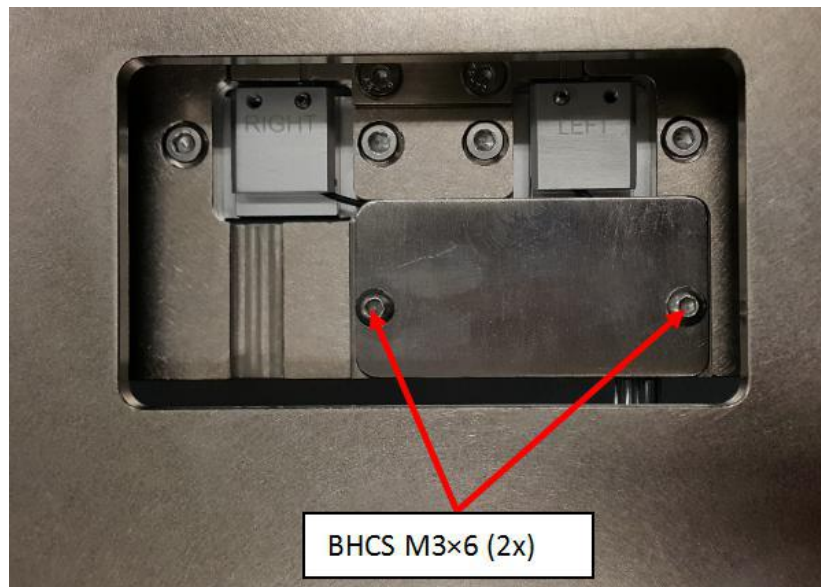

Figure 29 PIP Sensor Cover
8. Close Optical PIP Sensor cover with BHCS M3×6 (2x) as shown in Figure 29.